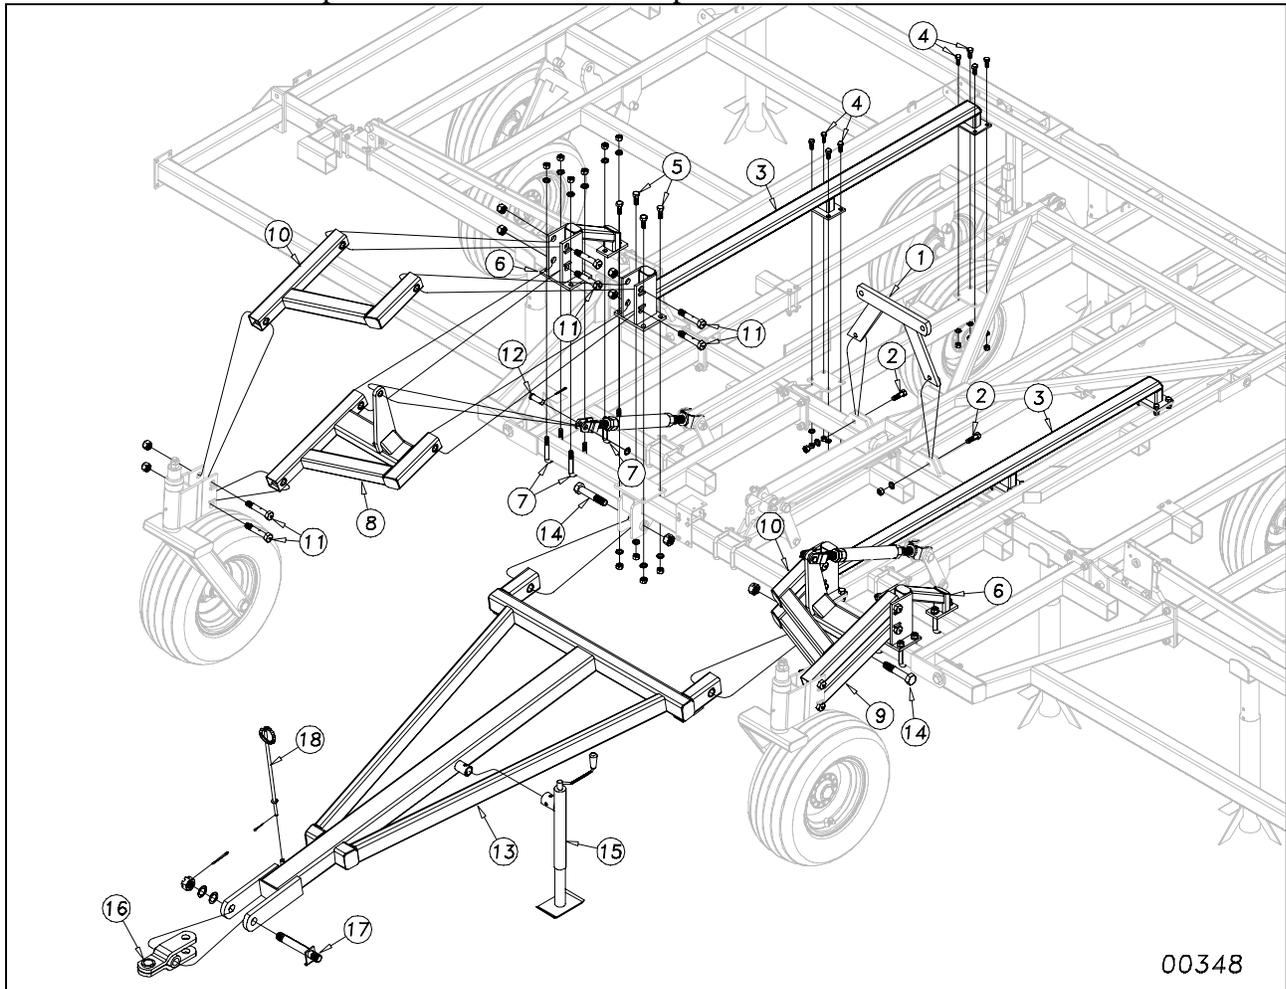

Figure 6
Bolt the center fold bracket (1) to the center frame as shown in Figure 6. Use 3/4 x 2 1/2 hex bolts (2) with lock washers & hex nuts. Bolt the center frame truss (3) to the center frame using 5/8 x 1 1/2 hex bolts (4), lock washers and hex nuts, and 3/4 x 2 hex bolts (5) with lock washers and hex nuts.